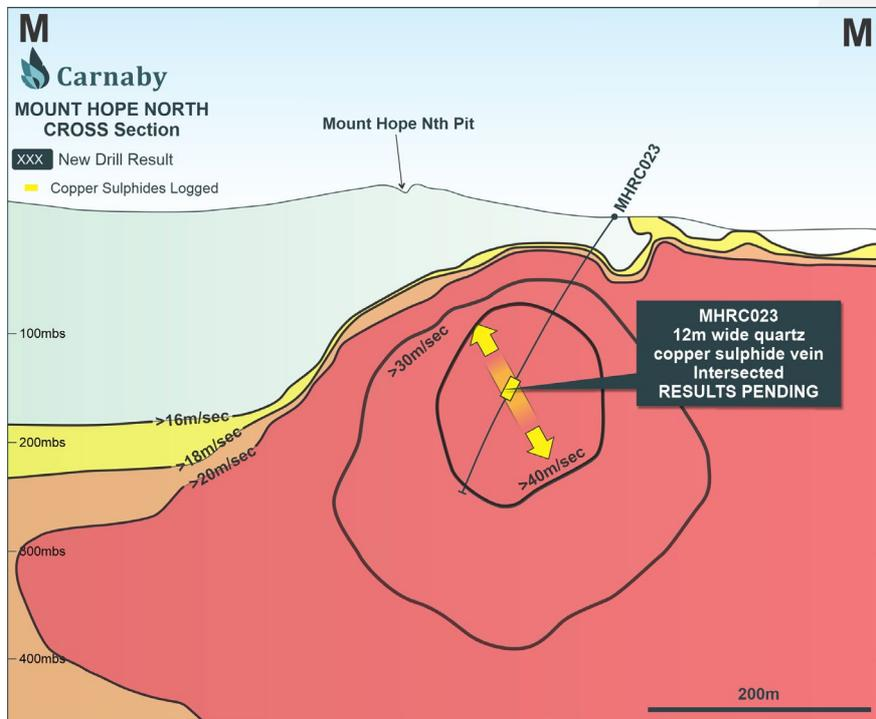

Figure 1. Mount Hope Cross Section Location of MHRC023 and the IP Anomaly.
The first hole drilled into the large Induced Polarisation (IP) chargeability inversion anomaly has intersected a **12m downhole copper sulphide quartz** vein from 189m to 201m in MHRC023 (See Figures 1 & 2, Image 1). The copper sulphide vein mineralisation is almost certainly the source of the large associated IP anomaly (Figure 1). Results are pending.
The orientation of the copper sulphide vein is not yet known due to the complete lack of any other historical drilling at Mount Hope, however it is likely to be linked to the main copper sulphide vein mined in the Mount Hope North open pit. The copper sulphide quartz vein intersected in MHRC023 is approximately 200m down dip from the surface vein mined in the Mount Hope North open pit (Figure 1 & 2).